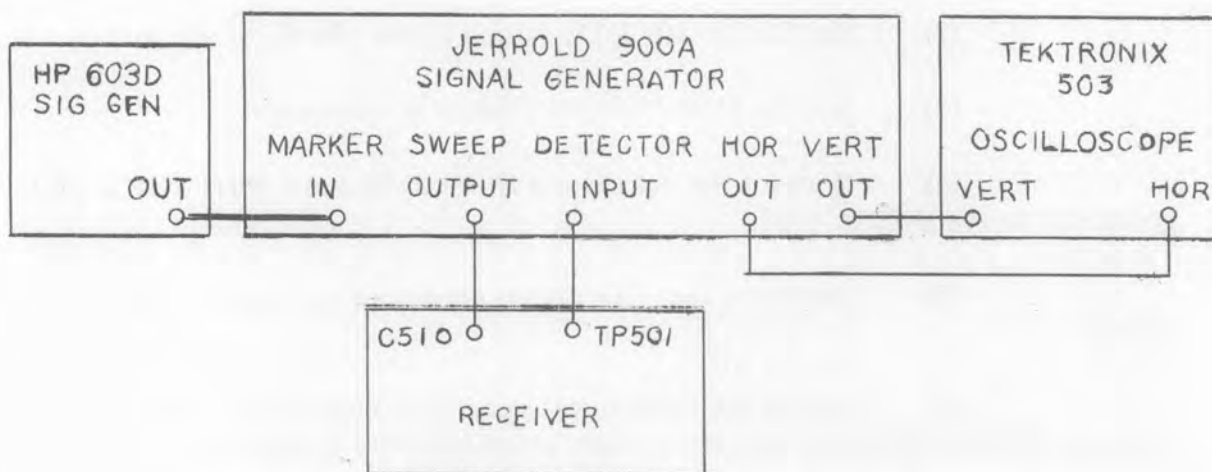

Figure 5-8. Type 501 Receiver, Equipment Setup, V502 to V503 Interstage Alignment
(1) Remove bottom cover from the tuner chassis.
(2) Unsolder C510 from the junction of L504 and L505, carefully noting the capacitor's position so that it may later be resoldered to exactly the same point.
(3) Set up the equipment as shown in Figure 5-8.
(1) If C510 has been unsoldered from the junction of L504 and L505, resolder it to the exact position from which it was taken.
(2) Set up equipment as shown in Figure 5-8, except that the output of the sweep generator is now connected to the INPUT, J101.
(3) Set the oscilloscope vertical sensitivity to 10 mv per cm and the vertical input to the ac-coupled position.
(4) Set the oscilloscope horizontal sensitivity so that the total trace of the horizontal sweep is 10 cm.
(5) Set the receiver dial to 250 mc and the sweep generator to approximately 250 mc.
(6) Adjust C503 for maximum gain and symmetrical response.
(7) Set the receiver dial to 75 mc and the sweep generator to 75-mc center frequency.
(8) If the response is symmetrical, the alignment is completed. If not, adjust C503 for a symmetrical response.
(9) Repeat step (6) through (8) as necessary.